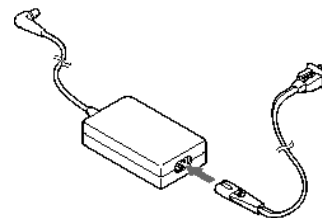

Figure 1-2 AC Adapter Unit
- AC adapter with AC power cord (located in the accessories box). (Figure 1-2.)